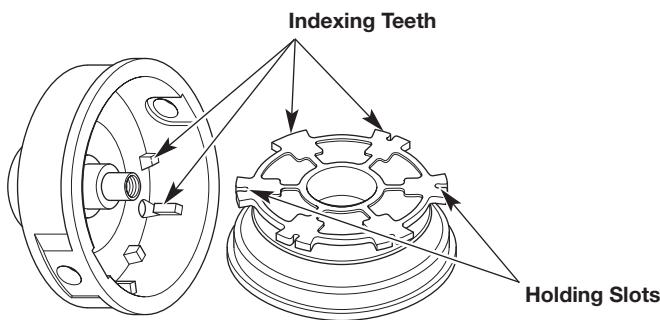

Fig. 13
- Check the indexing teeth and holding slots for wear (Fig. 13). If necessary, remove burrs or replace the inner reel and outer spool.